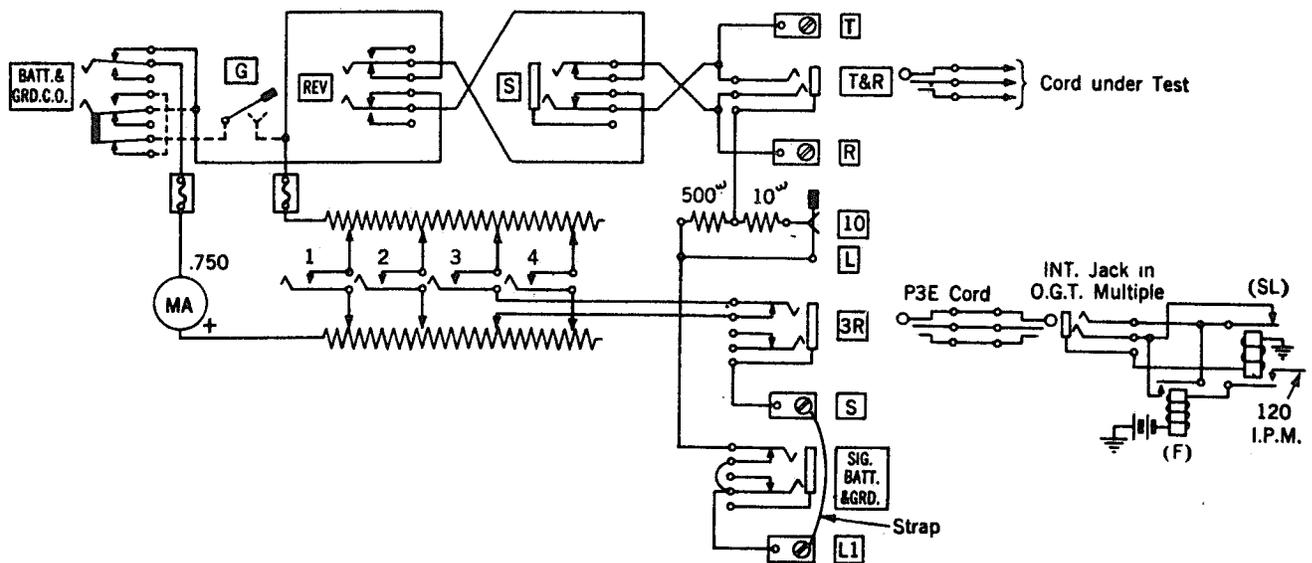

Fig. 2 - Test Using Interrupter Circuit
- 3.14 Connect the 3R jack of the test set to the interrupter circuit jack in the switchboard with a P3E cord. See Fig. 2.